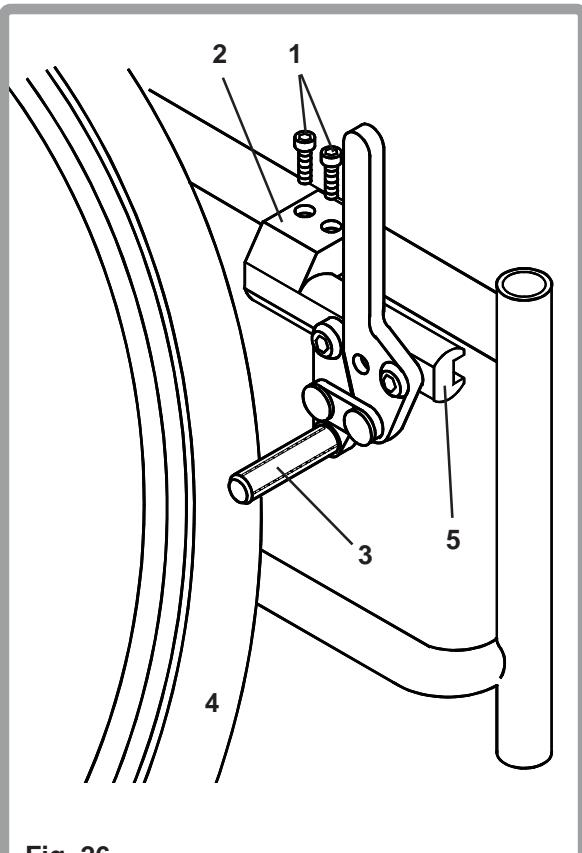

Fig. 26
To adjust, loosen the screws (1) on the top of each clamp (2). Using a 5mm Allen key turn one of the screws anticlockwise $\frac{1}{4}$ turn. (Fig. 26). Repeat the process with the second of the two screws. Loosen the screws until the clamp can slide freely. Slide the clamp towards the rear wheel until the grip bar (3) embeds into the tyre (4) approximately 4mm (3/16") when in the locked position. Tighten the screws to a torque setting of 15Nm. Some adjustments to the wheel lock position can be accomplished without moving the clamp. To adjust, loosen the two screws as above. Slide the mounting bar (5) forward or backwards and rotate it to the correct angle position. The grip bar should embed into the tyre approximately 4mm (3/16") when in the locked position. Tighten the screws to a torque setting of 15Nm.